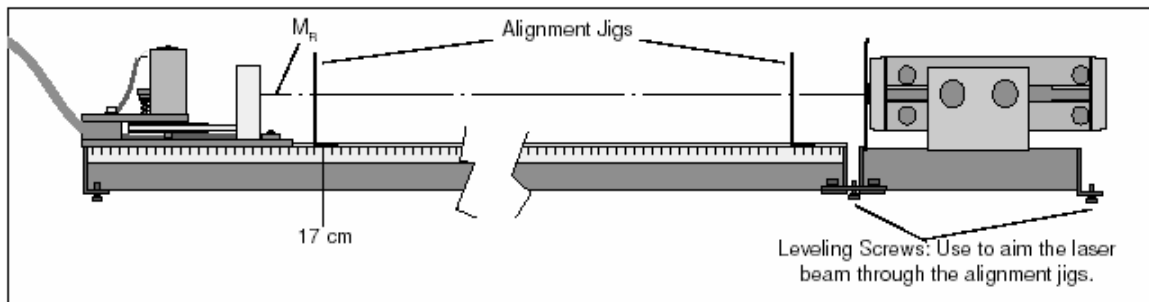

Figure 8: Using the Alignment Jigs to Align the Laser
4. Mount the Rotating Mirror Assembly on the opposite end of the bench. Be sure the base of the assembly is flush against the fence of the Optics Bench and align the front edge of the base with the 17 cm mark on the metric scale of the Optics Bench (see Figure 8).
5. The laser must be aligned so the beam strikes the center of the Rotating Mirror ( $M_R$ ). Two alignment jigs are provided for this purpose. Place one jig at each end of the Optics Bench as shown in Figure 8, with the edges flush against the fence of the bench. When properly placed, the holes in the jigs define a straight line that is parallel to the axis of the Optics Bench.